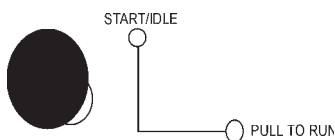

Figure 40. Engine Throttle Control Lever (low)
6. Turn and push the engine throttle control lever (Figure 40) to 'Low'.